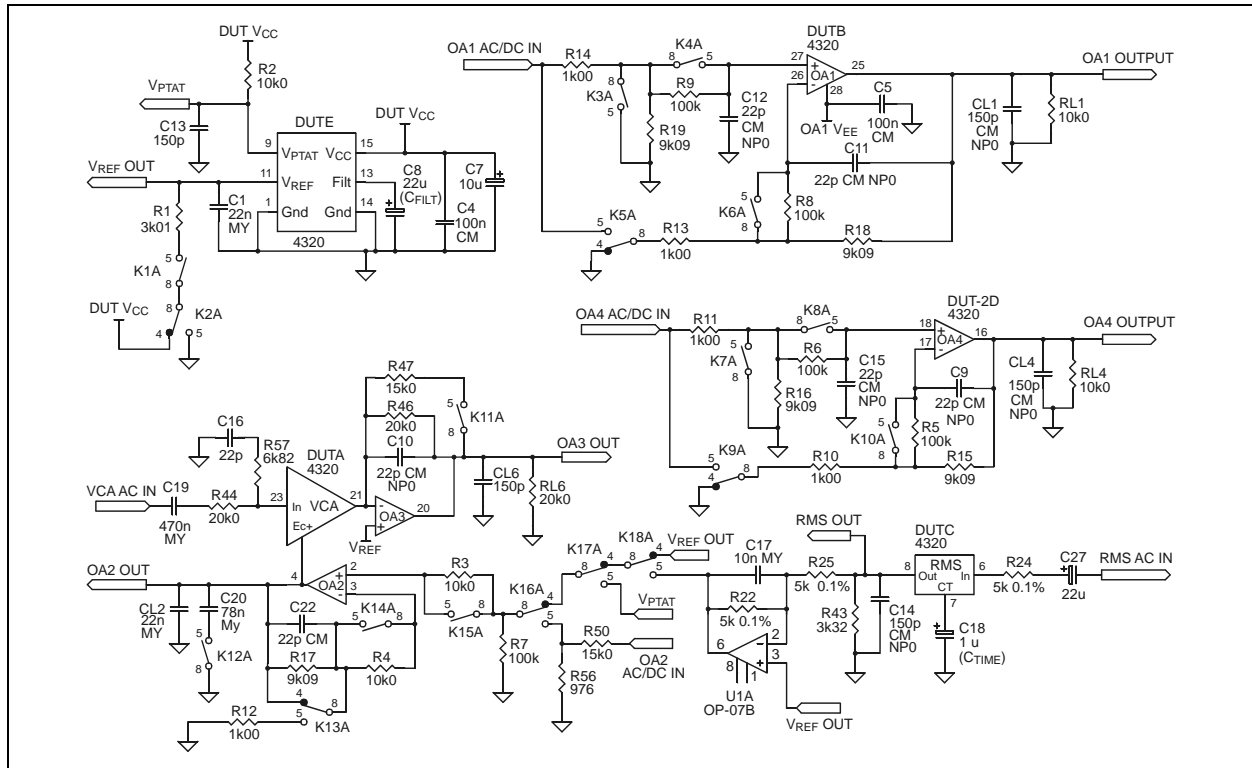

Figure 2. 4320 Test Circuit Schematic (QSOP-28 pin assignments shown)
Input signals are currents in the VCA's IN pin. This pin is a virtual ground with dc level approximately equal to  $V_{REF}$ , so in normal operation an input voltage is converted to input current via an appropriately sized resistor ( $R_{44}$  in Figure 2, Page 6). Because the currents associated with dc offsets present at the input pin and any dc offset in preceding stages will be modulated by gain changes (thereby becoming audible as thumps), the input pin is normally ac-coupled ( $C_{19}$  in Figure 2).
The VCA output signal is also a current, inverted with respect to the input current. In normal operation, the output current is converted to a voltage via inverter  $OA_3$ , where the ratio of the conversion is determined by the feedback resistor ( $R_{46}$  or  $R_{47}$ , Figure 2) connected between  $OA_3$ 's output and its inverting input. The signal path through the VCA and  $OA_3$  is noninverting.
5) The OTA used for the VCA's internal opamp in the 4320 uses less emitter degeneration resistance in its output than that of the 2180 VCA. This requires that the source impedance at the VCA's input (which is a summing junction) must be under 5 k $\Omega$  at frequencies over 1 MHz. In Figure 2,  $C_{16}$  and  $R_{57}$  accomplish this. See the applications section for an alternative on how to address this issue.
As in the VCA, input signals are currents to the RMS IN pin. This input is a virtual ground with dc level equal to  $V_{REF}$ , so a resistor ( $R_{24}$  in Figure 2) is normally used to convert input voltages to the desired current. The level detector is capable of accurately resolving signals well below 10 mV (with a 5 k $\Omega$  input resistor). However, if the detector is to accurately track such low-level signals, ac coupling is normally required ( $C_{27}$  in Figure 2). Note also that small, low-voltage electrolytic capacitors used for this purpose may create significant leakage if they support half the supply voltage, as is the case when the source is dc-referenced to ground. To